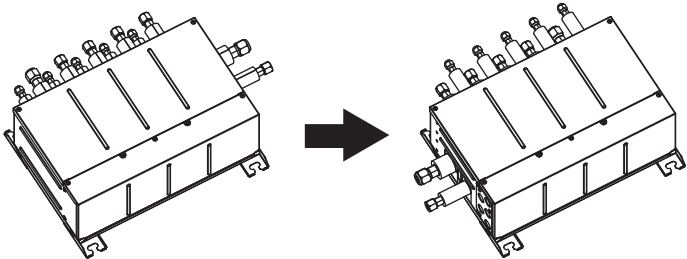

Fig. 4-4
4.1. The direction of the piping can be changed (Fig. 4-4)